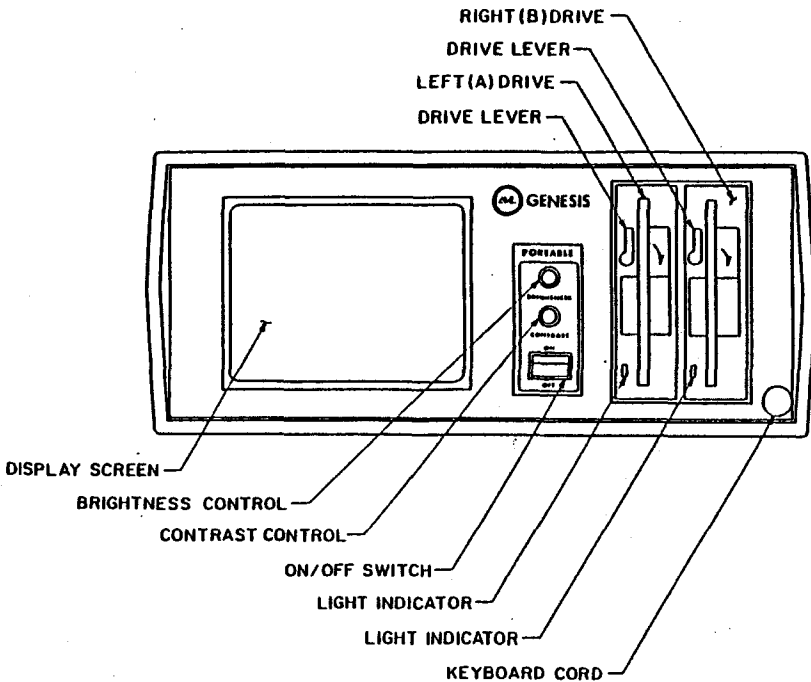

FIGURE 2-1 GENESIS PORTABLE FRONT PANEL
The front panel (Figure 2-1) consists of the display screen, the brightness and contrast controls, the ON/OFF switch, and two disk drives. The display and drives are discussed in the subparagraphs that follow.
Your AVL Genesis Portable has two floppy disk drives (see Figure 2-1). The floppy disk drives use 5-1/4 inch, 48 TPI (tracks per inch) disks. Either single sided or double sided formatted disks can be used.
The main section of the keyboard on the Genesis Portable is similar to a standard typewriter. (Refer to Figure 2-1). You will find three shift keys, two are identical and act exactly as found on a standard typewriter. The third shift key, Caps Lock, shifts only the letters into uppercase. A convenient LED display on the Key will indicate whether or not the Caps Lock function is in use.
STEP 3 Make sure the power ON/OFF switch, located on the front panel of the main unit, is in the OFF position. (The red circle on the switch should be showing). Refer to Figure 2-1.